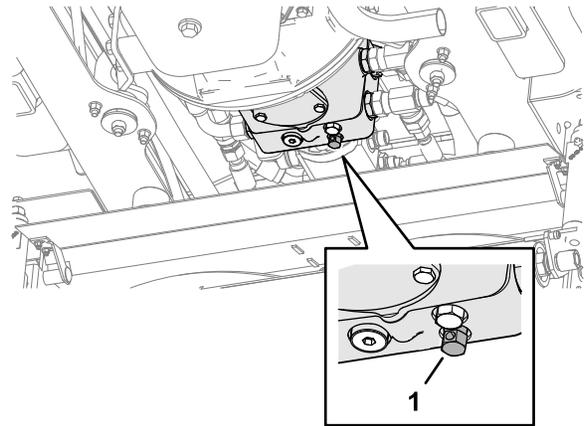

Figure 38
2. Above the center cutting unit, close the bypass valve on the transmission pump by turning it clockwise (Figure 38).